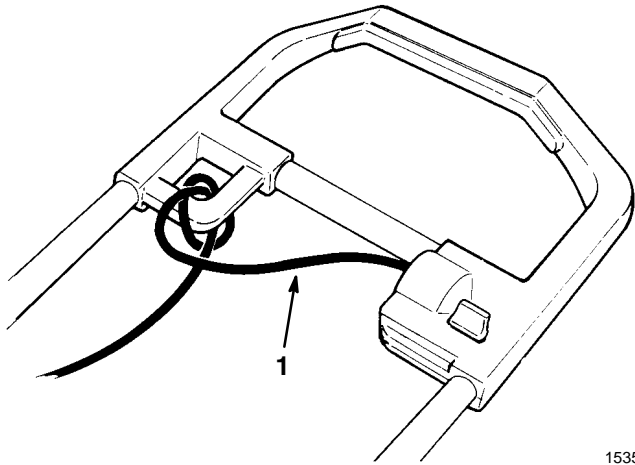

Figure 6
1. Before connecting the extension cord to the snowthrower, tie the extension cord to the loop in the handle as shown in Figure 6. This helps to prevent the extension cord from pulling out of the snowthrower during operation.